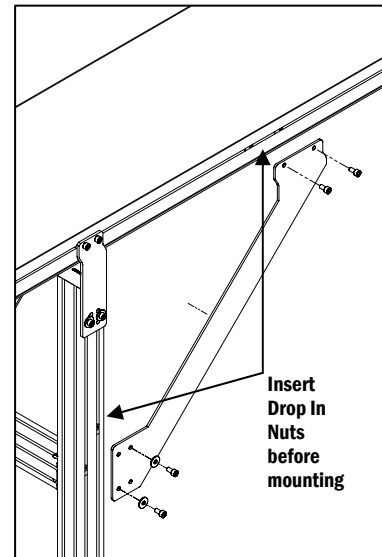

Figure 2
c. Place the Angle Brace over the Drop In Nuts, and insert the Socket Head Cap Screws into the Drop In Nuts, but do not fully tighten them (**Figure 2**).